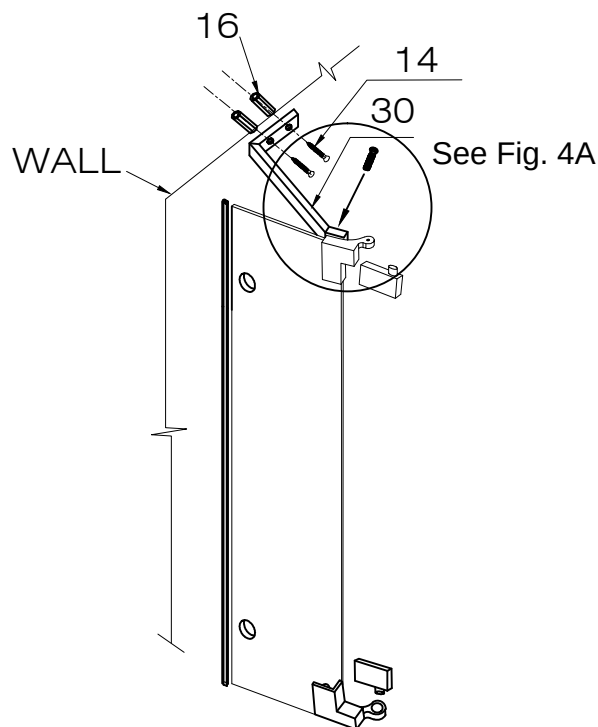

FIG.4
1. Attach the structural arm (#30) to the top turning hinge base (#1). Note that the structural arm has an adjustable screw hole of 1/2" length. This will allow for flexibility and proper install placement [SEE FIG. 4 & 4A].